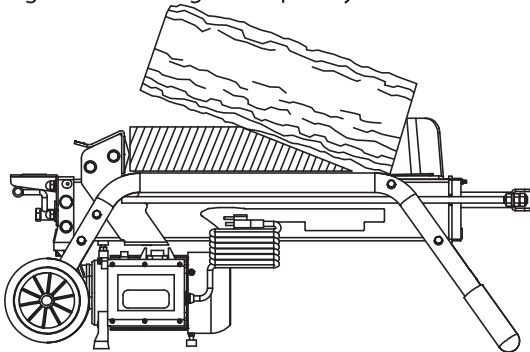

Figure 5
2. Once the log pusher completely stops at its starting position, insert a wood wedge under the jammed log. (SEE FIGURE 5)